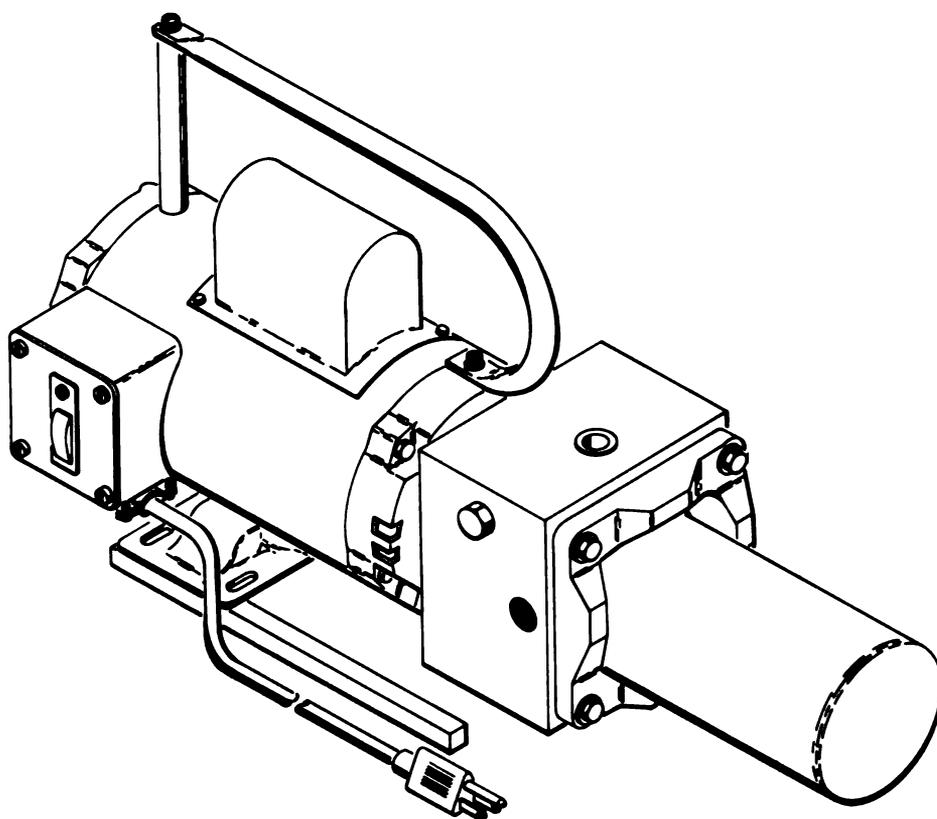

Figure 1-24. Transfer Pump.
g. *Transfer Pump.* The HSTRU is equipped with a lightweight transfer pump (figure 1-24). This pump may be used to transfer hydraulic fluid from one reservoir to another during the repair process. The transfer pump is a 3.5 GPM electrically driven pump. It has a 1/3 HP, 120 VAC 60 Hz electric motor.